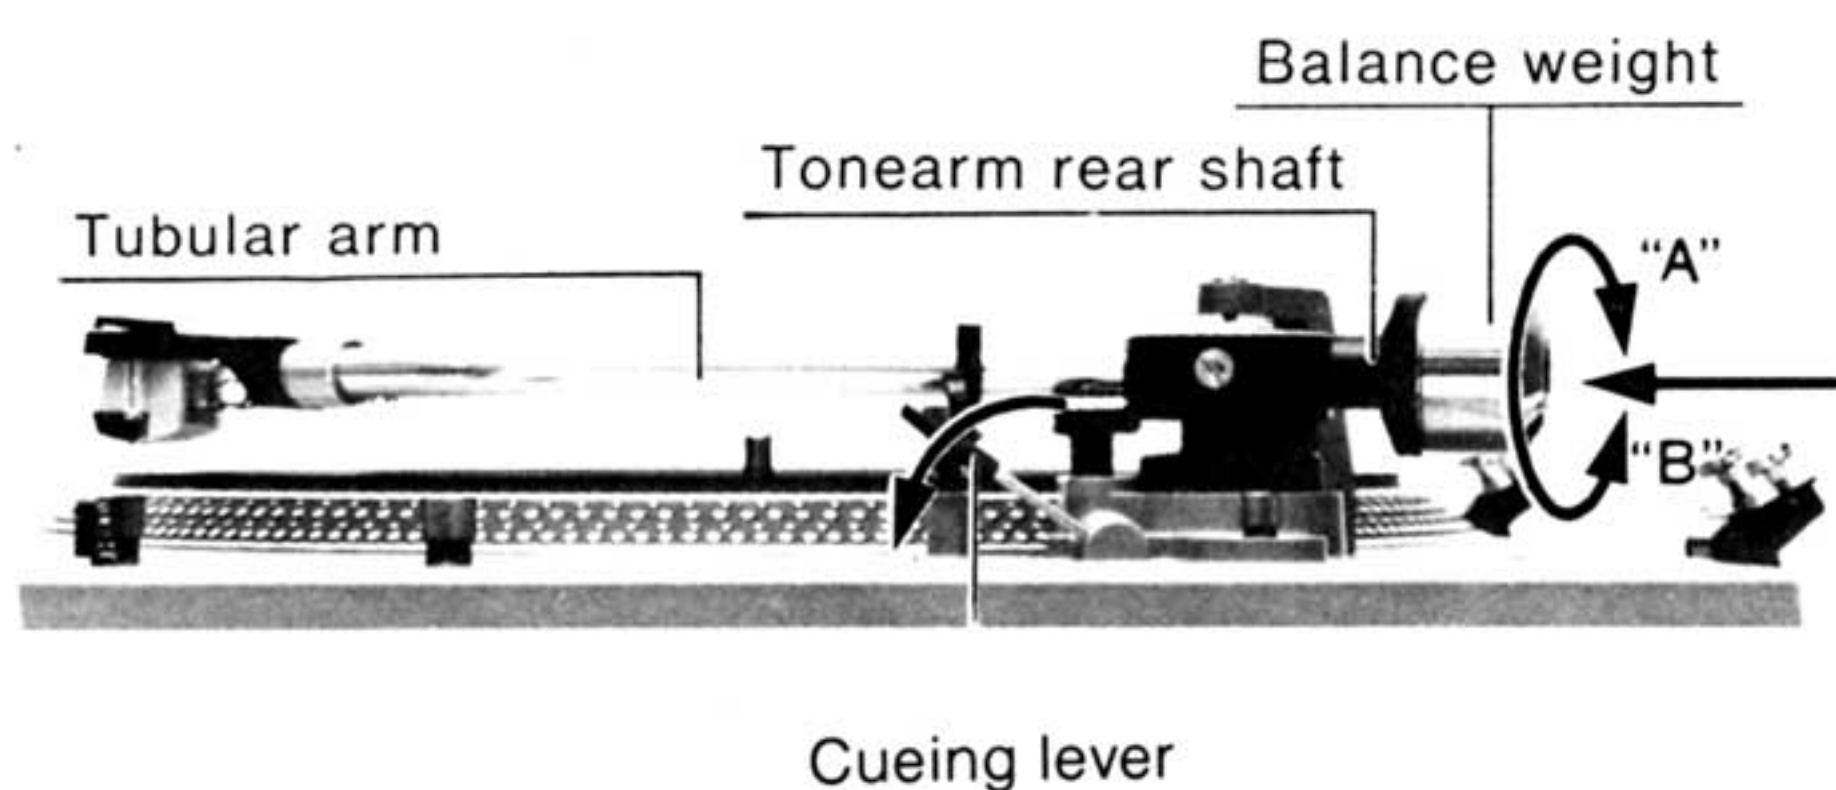

Figure 8
⑤ ADJUSTMENTS OF THE HORIZONTAL "0" BALANCE AND THE STYLUS PRESSURE.
1. Insert the balance weight onto the rear shaft of the tonearm (See Fig.8)
4. Turn the entire balance weight clockwise (indicated by the arrow "A") or counterclockwise (indicated by the arrow "B") until the tonearm is approximately balanced horizontally. (See Fig. 8)
- 3) Ensure that the cueing lever is in the lowered position as shown in Fig. 8.